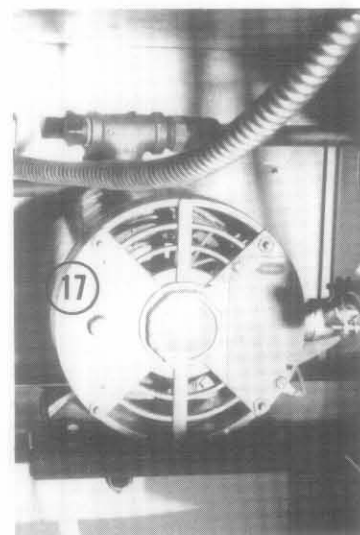

Figure 15-G
16. PARTS LIST (CONT'D)-FILTER MAGIC II & FOOTPRINT II (Refer to Figures 15-E, F, & G)